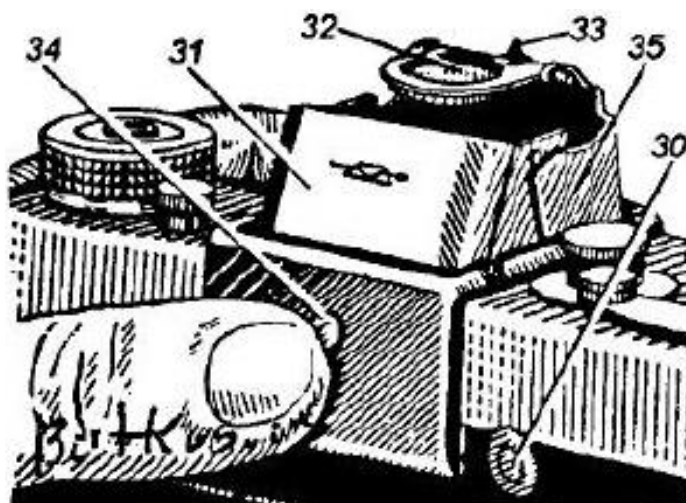

Fig. 3
The prism finder can be removed from the camera and is replaced by the finder-hood (or WLF) (see Fig. 3). The photographing without these devices can result lightning of, the frame through the holes near the focusing screen.
NOTE: Old issues of Start camera have special lock (item 30 at fig. 3) for viewfinders. You can see it at right side from eyepiece.